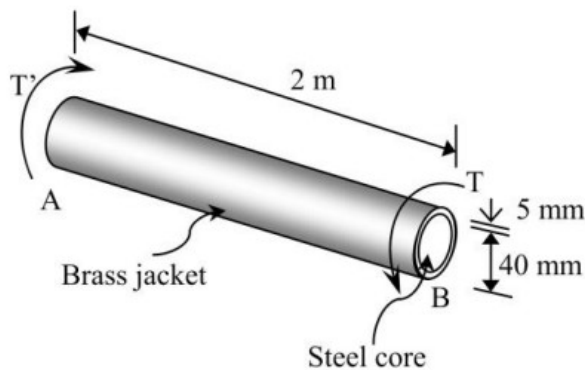

Figure 5
b) The composite shaft shown in **Figure 5** consists of a 5 mm thick brass jacket ($G_b = 39$ GPa) bonded to a 40 mm diameter steel core ($G_s = 77$ GPa). The shaft is subjected to a 600 N.m torque, determine